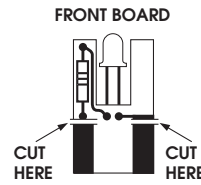
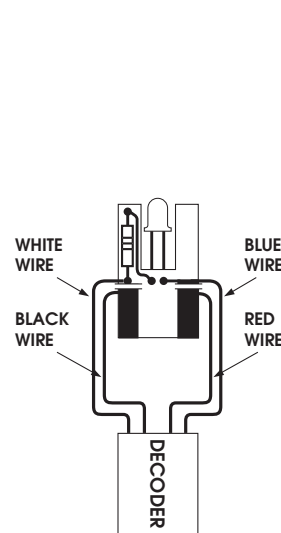

Fig. 1
Fig. 3
- Lay the light boards out in front of you, parts side up. With a sharp hobby knife make 2 cuts in the circuit trace as shown in Fig. 1 & 2. Solder the BLACK, RED, BLUE and WHITE wires to front board as shown (Fig. 3).